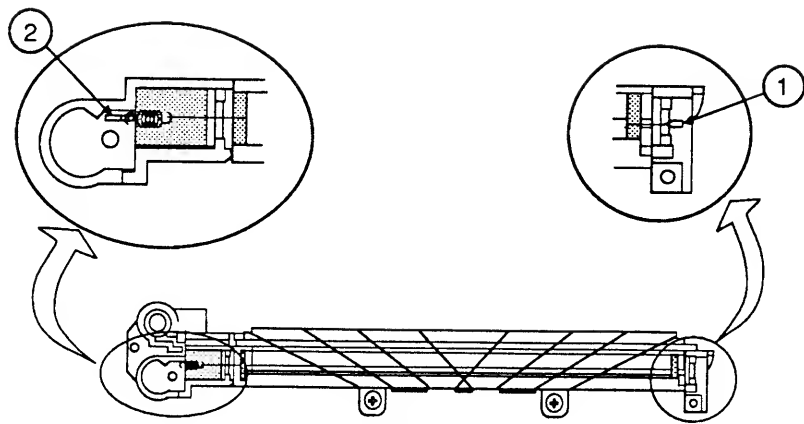

FIGURE 44
2. Hook the loop over the plastic retaining pin (Figure 44, #1) at the right end of the assembly.
3. Stretch the wire across the length of the corona assembly until it reaches the corona wire terminal (Figure 44, #2).